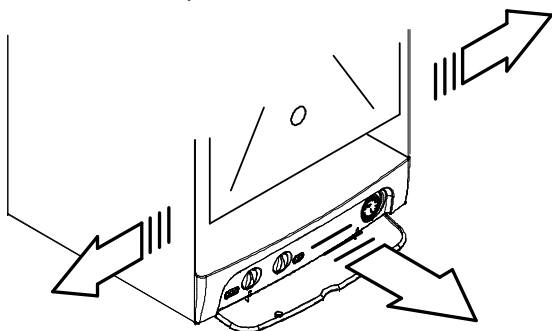

Fig. 6.10
- 4 Remove the side panels or move the lower part of the side panels as indicated in Fig. 6.10 and pull the control panel.